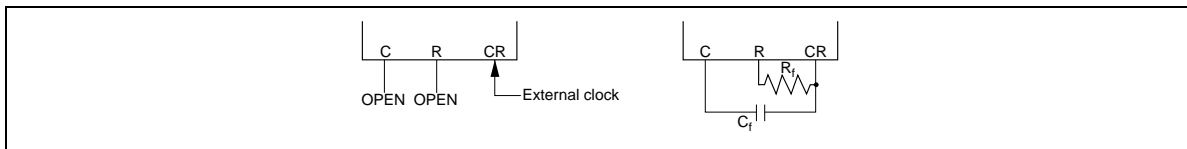
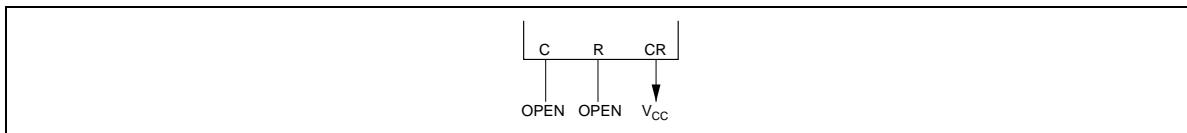

Figure 4 Oscillator Connection in Master Mode
Figure 5 Oscillator Connection in Slave Mode
1. **CR Oscillator:** The CR oscillator generates the HD66503 operation clock. During master mode, since the operation clock is needed, connect oscillation resistor  $R_f$  with oscillation capacitor  $C_f$  as follows. When the external clock is used, input external clock to pin CR and open pins C and R (Figure 4). When using the HD66503 during slave mode, the operation clock will not be needed; therefore, connect pin CR to  $V_{cc}$  and open pins C and R (Figure 5).